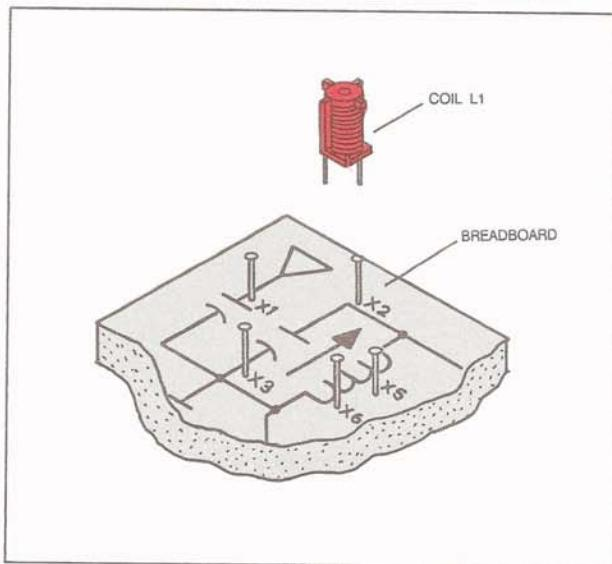

FIG. 36
7. Carefully solder adjustable coil L1 between pins 5 and 6 on the breadboard, as illustrated in Fig. 36.